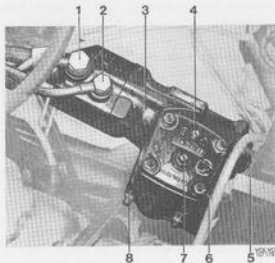

Fig. 6-74. Steering housing installed
Jack up the front end. Screw out the draining plug (6, Fig. 6-74). Turn the steering wheel to the left to the stop position. Remove the cover on the container.
4. Open the bleeder screw (4, Fig. 6-74) $\frac{1}{2}$ —1 turn. Close it when oil starts flowing out.
- c) Slacken the nut for the adjusting screw (8, Fig. 6-74).
4. Disconnect the oil lines (1 and 2, Fig. 6-74) from the steering housing after the connections have been cleaned. Slacken the clamping bolt.
5. Remove the attaching bolts (8) and pull the steering housing forwards.
3. Fit the steering housing spindle in the flange of the lower steering column section. Fit and tighten the attaching bolts (8, Fig. 6-74). Tighten the clamping bolt. Check that the distance between the steering housing and the lower flange is 12 ± 3 mm. Connect the oil lines. The longer delivery line should run in a curve backwards, (see Fig. 6-43) and should be clamped.